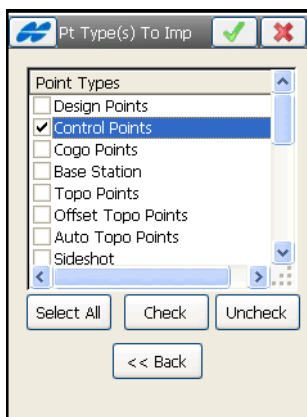

Figure 5-5. Select Point Type(s) to Import
- **Point Type(s) To Import** if the points are filtered *By Type* (see Figure 5-5 on page 5-5)
On the **Pt Type(s) To Import** (Figure 5-5), select the types of points to be imported; only if the *Code Library*, *Localization*, or *Roads* box is check marked and if the points filter *By Type* has been enabled in the **From <Job>** screen. Place a check mark next to the point type that you want (Figure 5-3 on page 5-3).